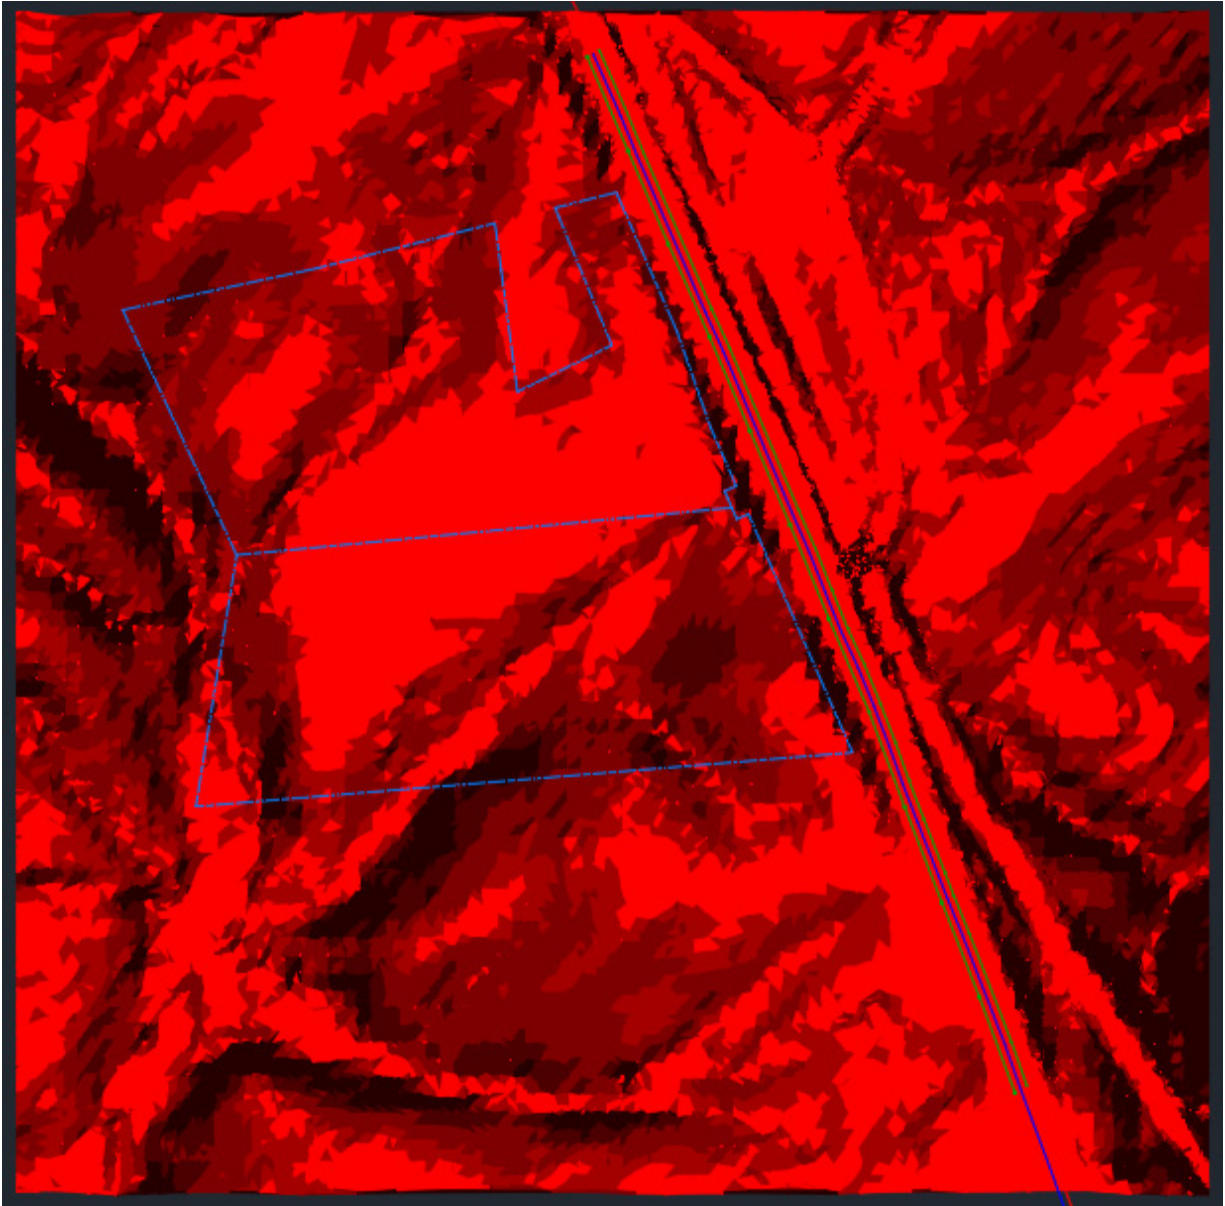

Figure 6.19 – SRF - Existing Grade - FromSurveyPoints slope analysis
**Contours to Slope Banding (2D)** across the entire surface model, as shown in *Figure 6.19*: